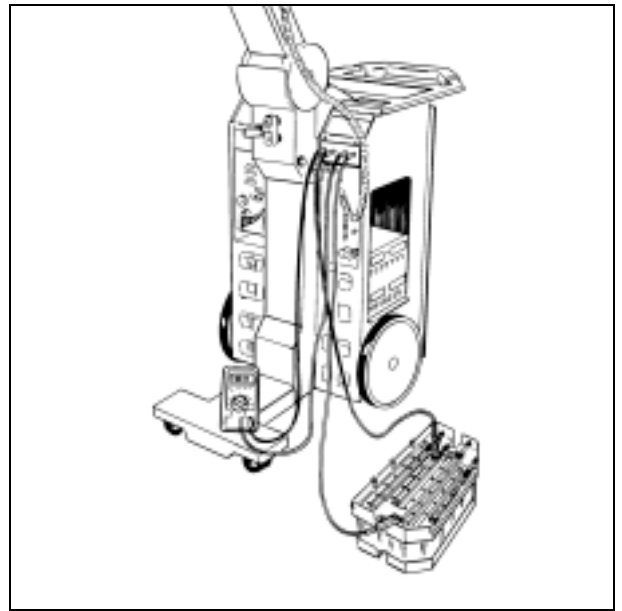

Fig. 4
- Connect the voltmeter to the measurement points parallel to the insulated cables which will be used to discharge the capacitor bank ($U < 10\text{ V}$) (Fig. 4).